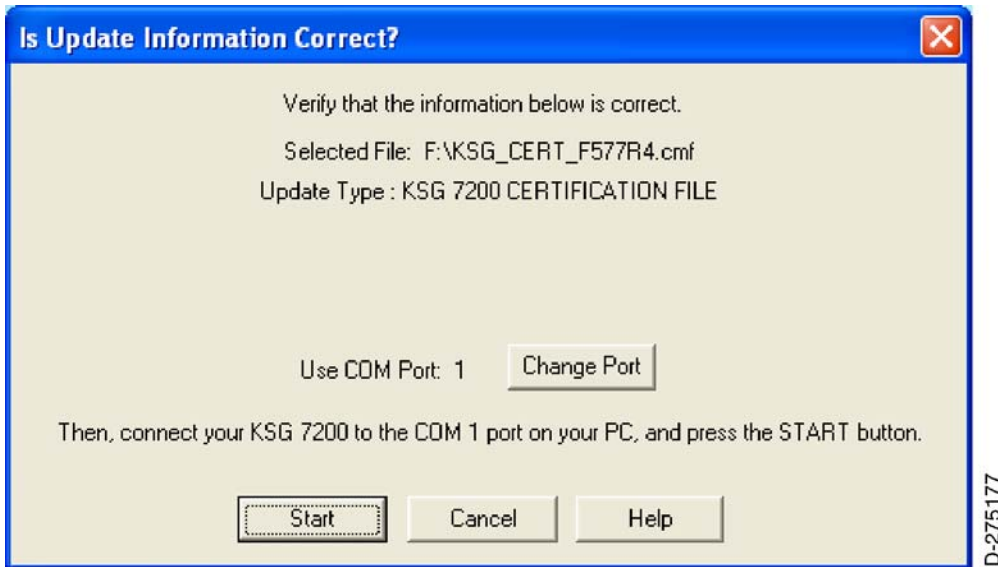

Figure 32. (Sheet 1 of 1) Is Update Information Correct? Window for Pilatus Certification File KSG_CERT_F577R4.cmf (60/75 mGauss settings)
- (12) The Is Update Information Correct? window will appear. Verify the information displayed is correct. If using a different COM port than displayed, it will be necessary to select Change Port.
- (a) Refer to Figure 32 to identify Pilatus (60/75 mGauss settings).